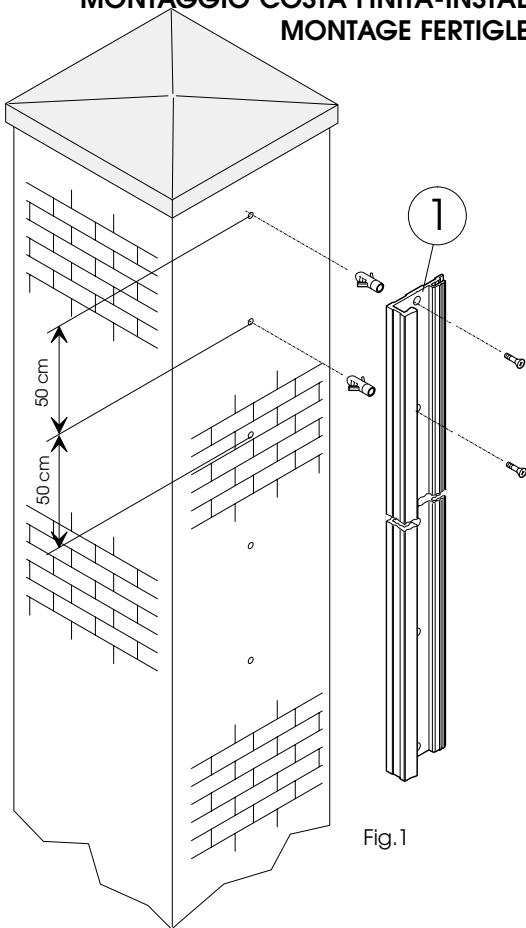

Fig.1
-Posizionare la guida (rif. 1) sul montante, fissandola ogni 50 cm per tutta la sua lunghezza (fig.1).
-Position the guide (1) on the upright and secure it every 50 cm along its entire length (fig. 1).
-Monter la glissière (rep. 1) sur le montant en la fixant tous les 50 cm (fig.1).
-Die Führung (Pos. 1) an den Ständer anlegen und auf der gesamten Länge im Abstand von jeweils 50 cm befestigen (Abb. 1).
-Colocar la guía (ref. 1) a lo largo del montante y fijarla cada 50 cm (fig.1).
- Insert the safety edge CN60E (2) in the guide (1) and make sure that the guide's projecting metal rib(1A) engages in the rubber channel on the safety edge (2A).
- Clamp the edge and guide assembly with the closure profile (3), making sure that it engages correctly with the guide.